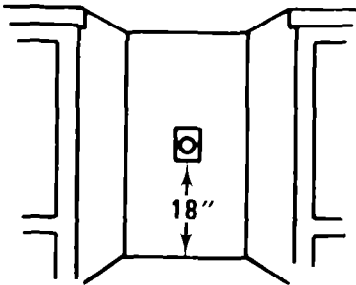

FIGURE 10
2. The recess must have a grounded outlet 18" min. (45 cm) above the floor as shown in Figure 10.